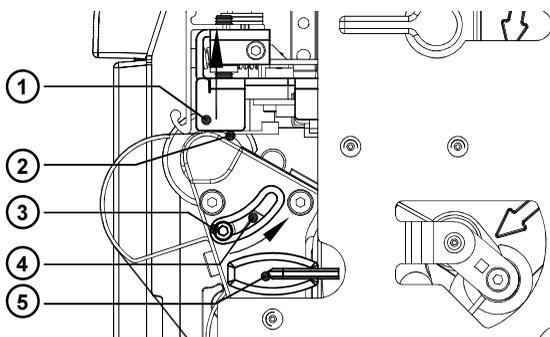

Fig. 7g Adjustment of the Printhead Support
1. The current position of the printhead support (2) is shown by the position of the screw (3) in the elongated hole (4).
2. For wide media the screw position shown in figure 7g is recommended. In this position the printhead support (2) is not used.
3. For narrow media, it is necessary to adjust the printhead support. In this case insert a second strip of a label at the outer side of the print roller and close the printhead. Loosen the screw (3) using the Allen key (5) and slide it slowly in the arrow direction until the printhead support (2) touches the printhead mounting (1).
4. Tighten the screw (3).